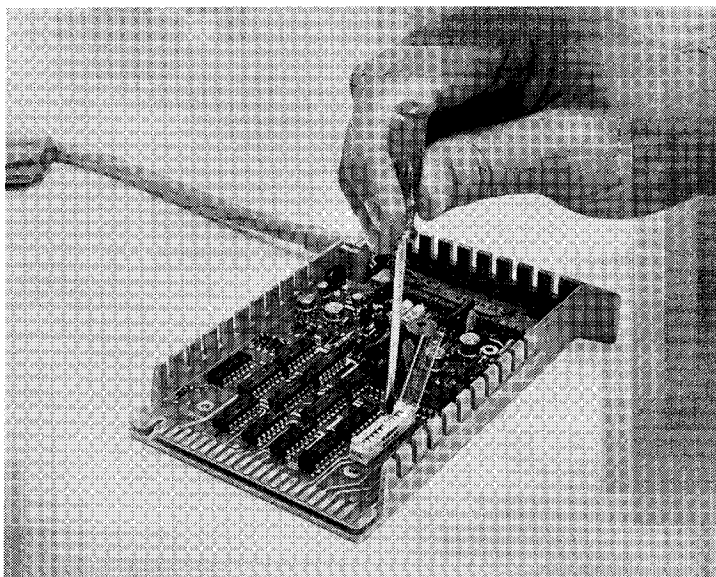

Figure 1-1. Setting The Select Code
3. Locate the Select Code Switch (see Figure 1-1). Raise the hinged cover on the switch. Using a small, flat-blade screwdriver, *carefully rotate* the selector tab until it is positioned at the desired select code number. Numbers are printed on the side and on the top cover of the switch ('0' corresponds to select code 15). Before closing the cover, be sure the slot in the selector tab is at a right angle to the length of the switch.